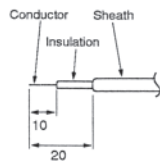
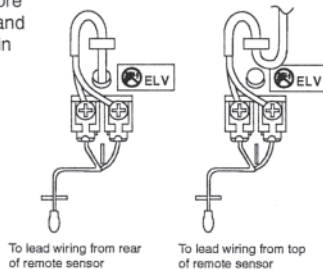

Fig.1
Fig.2
(2) Connect the wires.
- Connect the 2-core cable to the terminal block in the lower case. Peel the sheath of the 2-core cable as shown in Fig.1, and correctly wire it as shown in Fig.2.